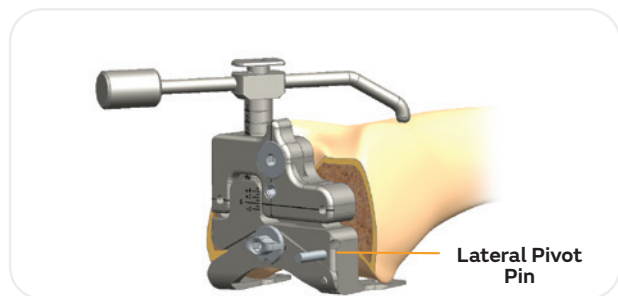

Figure 11
3. Position the femoral sizing guide flush against the distal femur, while ensuring the posterior paddles are contacting the underside of both posterior condyles. Once correct position of sizing guide is established, place a pin through lateral pivot pinhole located in the posterior/lateral corner on the face of the sizing guide (**Figure 11**).